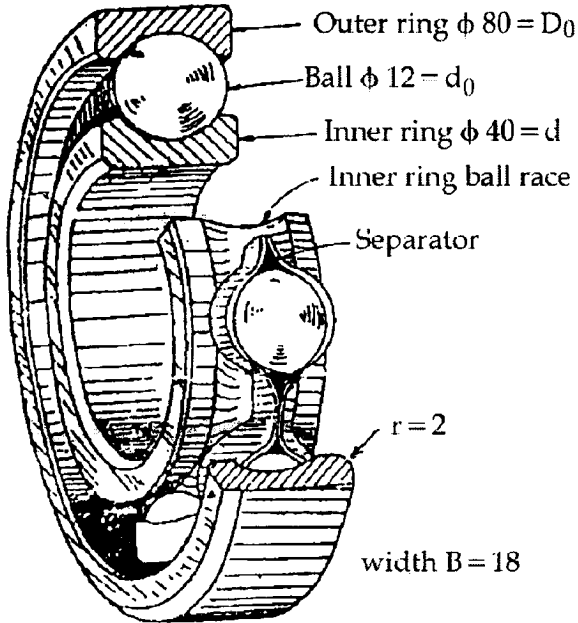

Fig. 2
3. Fig. 2 shows a ball bearing. Draw side view and front view. There are eight balls of 12 mm diameter in the bearing. 28